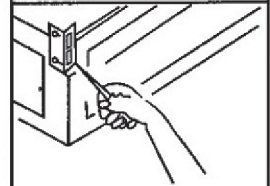

Fig. 2-2
4. Adjust hangers of both side, hang the machine onto wooden screw (Fig. 2-2).